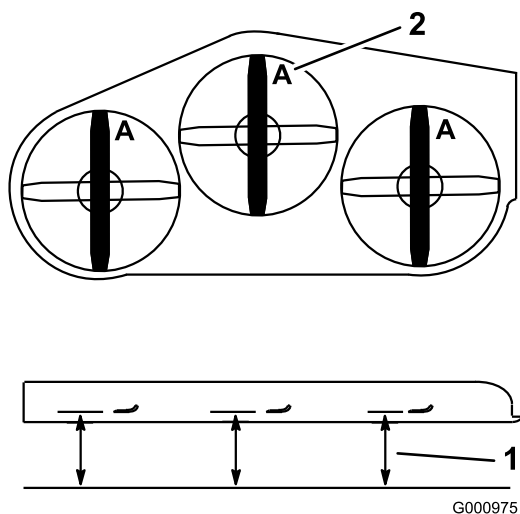

Figure 63
1. Rotate the blades until the ends face forward and backward (Figure 63). Measure from a level surface to the cutting edge, position **A**, of the blades (Figure 63). Note this dimension.